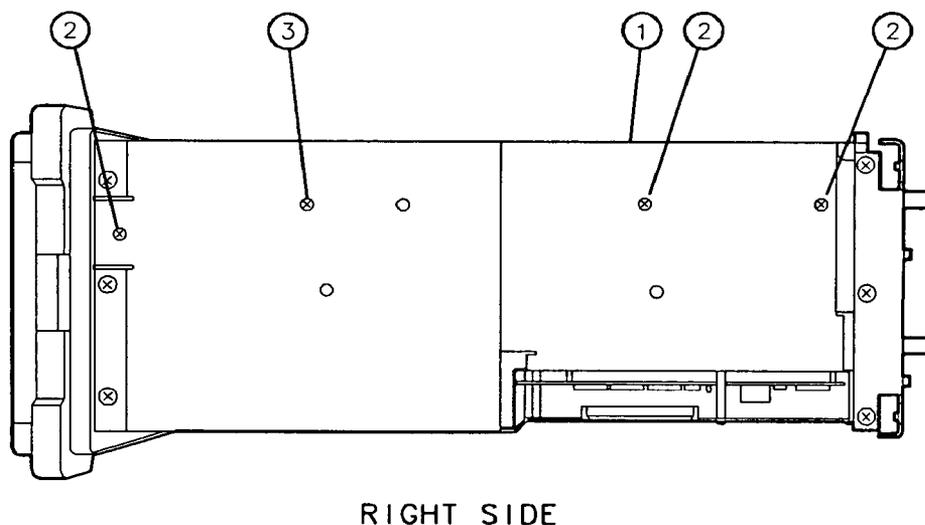

Figure 3-38. Installing the A7 Assembly
25. Place the A7 assembly in the analyzer, and connect wire harness W13 to A7J2 (1). See Figure 3-38.
26. Secure the A7 assembly to the analyzer's right side panel using three TORX screws (2) and one pozidrive screw (3). Use a TORX #8 driver bit.